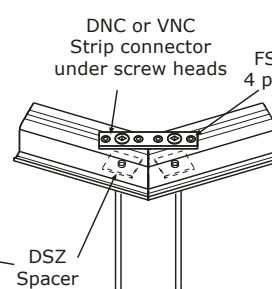
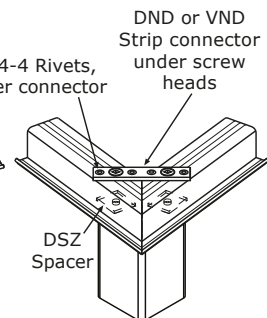

FIG. 5
FIG. 6
- For the Avon style with VRT Top Outer Rail (which uses a DZT3 Inner Top Rail), use a DNC Connector for corners where the rails adjoin opposite post faces (See Fig. 5), or DND for adjacent post faces (See Fig. 6), using two 10g x 50mm CSK (FV10-50) screws.